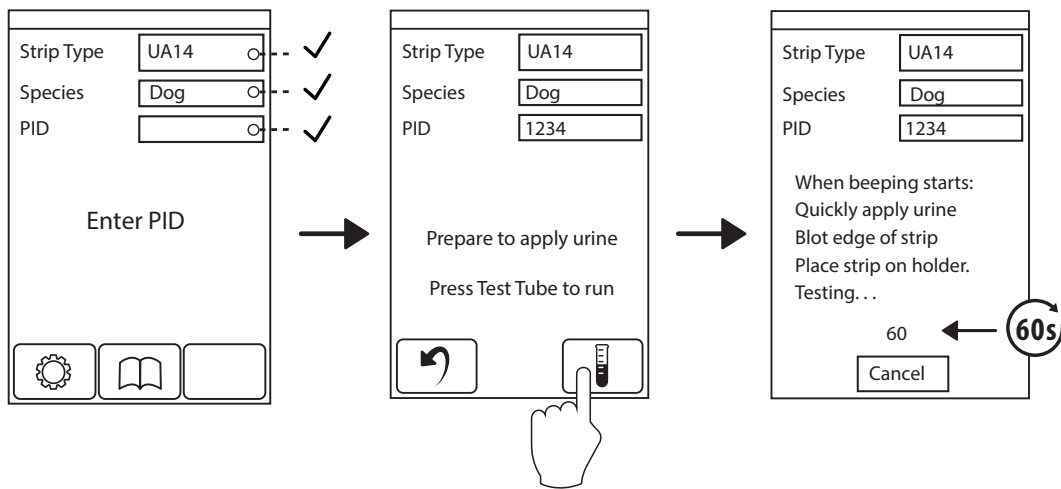

Fig. 23 Select Info for Running Controls – Select Strip Type and Species
3. To run UA Controls, prepare to run a sample as normal, by selecting the **Strip Type** and selecting Dog for **Species**. The UA Controls may be used on both UA10 and UA14 strips. Enter **PID**. Touch the **Test** button to start the timer. (Fig. 23)